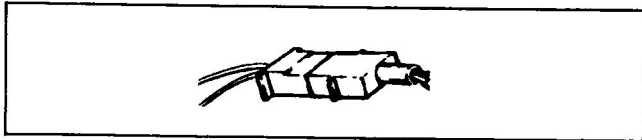
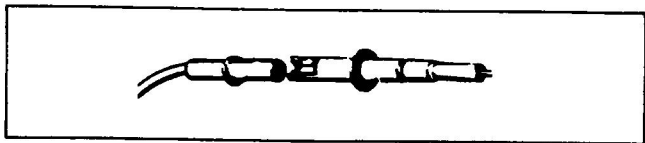

Fig. 1
Fig. 2
3. Connect harness assembly as shown in Fig. 1 for Dual Circuit or Fig. 2 for DC only.